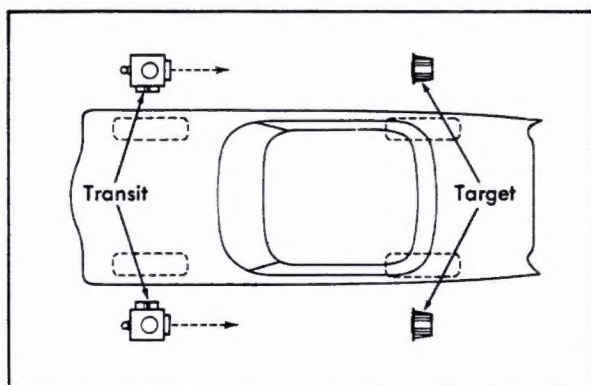

Fig. 12-3 Selecting an Aiming Area
1. Drive car on selected area and place transit target at rear wheel on either side of car, Fig. 12-3.
2. Place transit at front wheel on same side so target is visible, Fig. 12-3.